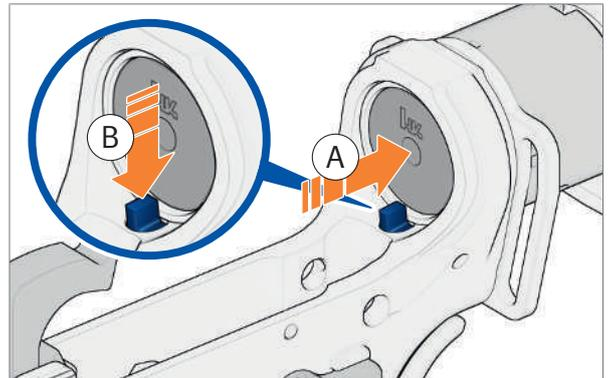

Fig. 95: Push in locking pin for buffer
2. Push buffer into the buttstock and hold it (*Fig. 95*).
3. Press locking pin for buffer in and hold it (*Fig. 95*).